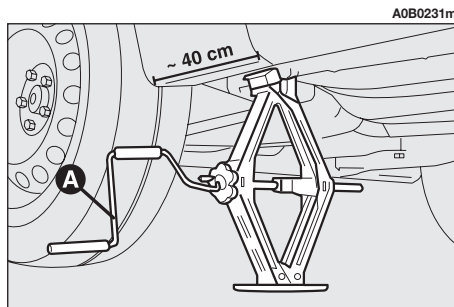
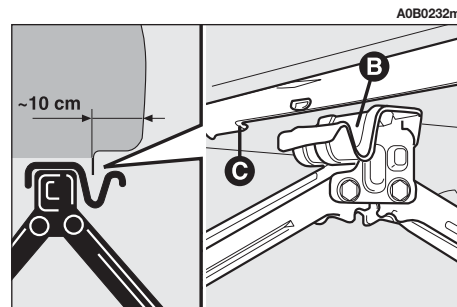

fig. 5
fig. 6
- Work the jack crank (**A-fig. 5**) to extend it until the groove (**B-fig. 6**) on the upper part of the jack is correctly inserted on the lower profile of the body (**C-fig. 6**) at about 40 cm from the profile of the wheelhouse.